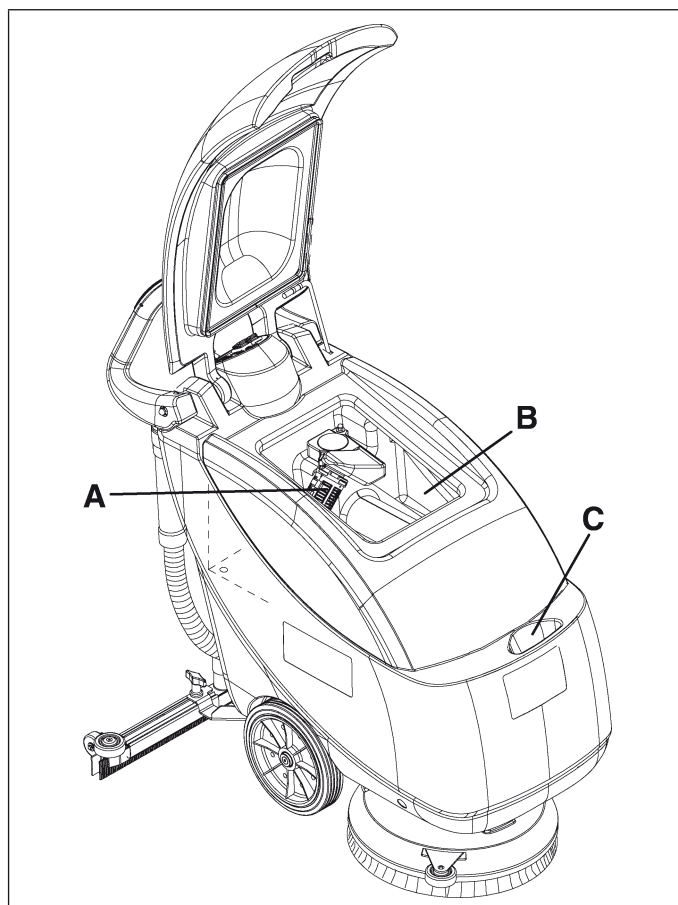

Figure 12
An automatic float shut-off system (A, Fig. 12) deactivates the vacuum system once the recovery tank (B) is full.
When the recovery tank (B, Fig. 12) is full, empty it according to the following procedure.
3. Empty the tanks (B and C, Fig. 12) according to the procedure shown in the previous paragraph.